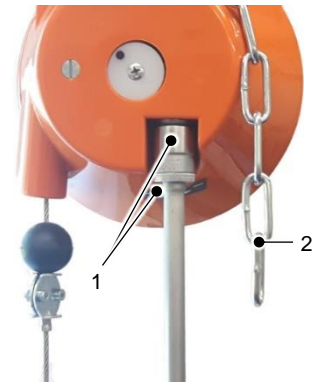

Fig. 5.2 – Fine-tuning of the spring balancer
The spring balancer is secured with a safety chain (2), see Fig. 5.2 *Fine-tuning of the spring balancer*. This must be secured in a fixed position independent of the suspension of the spring balancer.